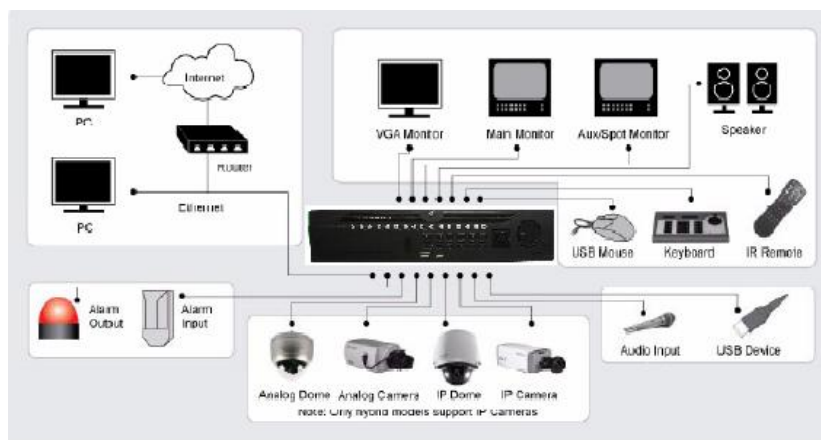

Figure 6 Product Application Diagram
2. **IR Receiver:** Your DVR may also be controlled with the included IR remote control, shown in Figure 6. Batteries (2XAAA) must be installed before operation.